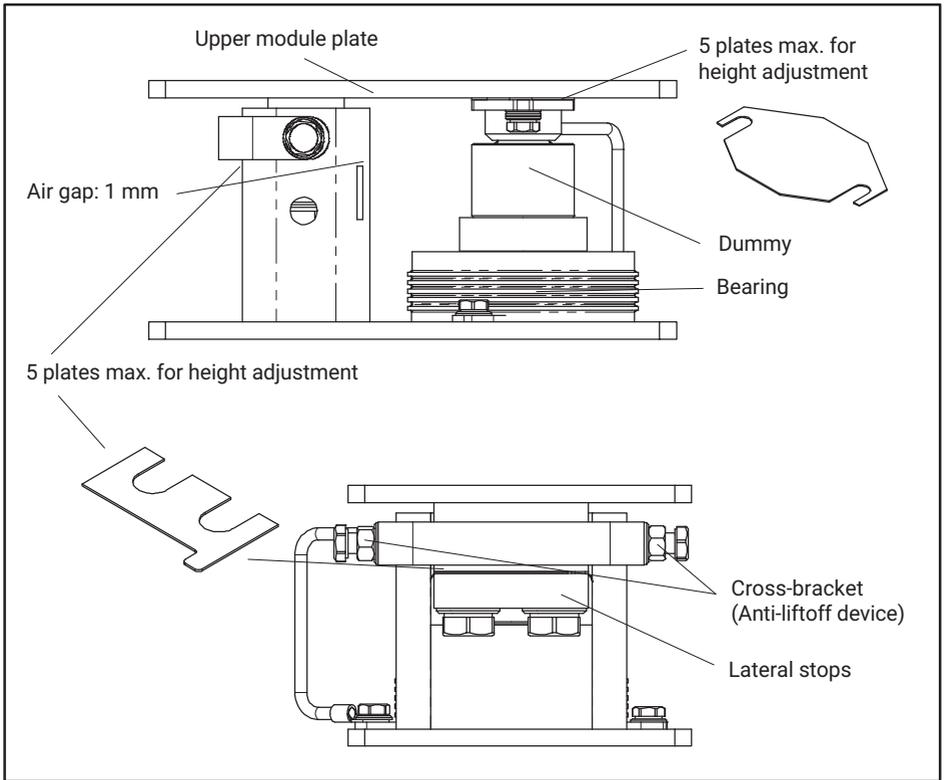

Fig. 4.2 Fitting of the spacer plates with 10 t ... 33 t version
Mounting of load cells with a max. capacity of 10 t, 15 t, 22 t and 33 t: see *Fig. 4.2*
- Vertically align the module by inserting or removing the five 1-mm-thick spacer plates above the thrust piece of the load cell (see *Fig. 4.2*)